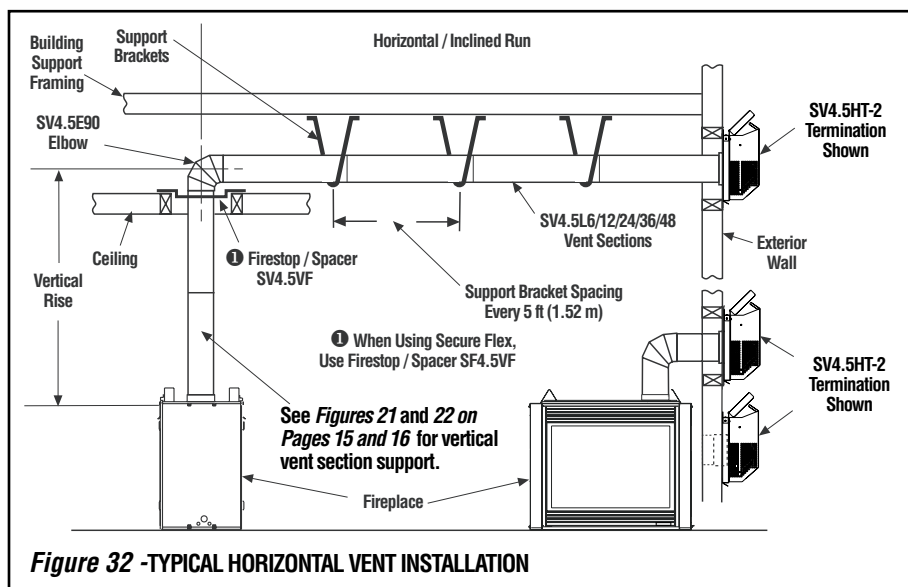

Figure 32 -TYPICAL HORIZONTAL VENT INSTALLATION
G. Continue installation of horizontal / inclined sections - Continue with the installation of the straight vent sections in horizontal / inclined run as described in **Step C**. Install support straps every 5 feet (1.52 m) along horizontal / inclined vent runs using conventional plumber's tape. **See Page 19, Figure 32. It is very important that the horizontal / inclined run be maintained in a straight (no dips) and recommended to be in a slightly elevated plane, in a direction away from the fireplace of 1/4" rise per foot (20 mm per meter) which is ideal,** though rise per foot run ratios that are smaller are acceptable all the way down to at or near level.
See **Figure 32**, and **Figures 35 to 40 (Pages 21 to 23)** and their associated Horizontal Vent Table which illustrates the horizontal venting configurations that are allowed to be used with these appliances. **Secure Vent™** pipe applications are shown in these figures; **Secure Flex™** pipe may also be used (see **Page 24**). A Horizontal Vent Table summarizes each system's minimum and maximum vertical and horizontal length values that can be used to design and install the vent components in a variety of applications.
I. Continue installation of horizontal / inclined sections - Continue with the installation of the straight vent sections in horizontal / inclined run as described in **Step E**. Install support straps every 5 ft. (1.52 m) along horizontal / inclined vent runs using conventional plumber's tape. See **Figure 32**. **It is very important that the horizontal / inclined run be maintained in a straight (no dips) and recommended to be in a slightly elevated plane, in a direction away from the fireplace of 1/4" rise per foot (20 mm per meter) which is ideal**, though rise per foot run ratios that are smaller are acceptable all the way down to at or near level.